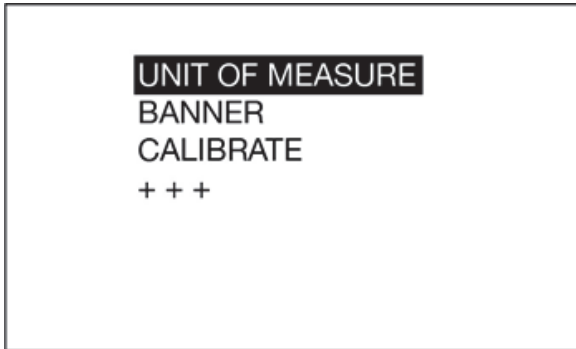

FIG. 18
9. After selecting END the following screen (FIG. 18) displays.